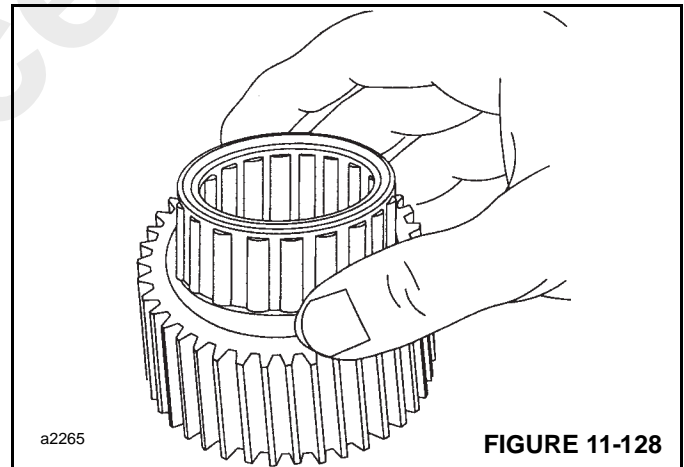

FIGURE 11-128
2. Turn the assembly over and install the sprag clutch in the bore of the outer race (Figure 11-128).